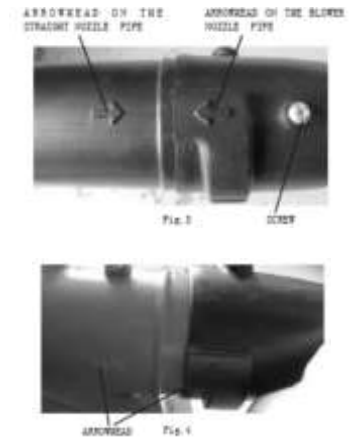

Fig. 5
3. Tighten the screw in place to secure. (Fig.5)